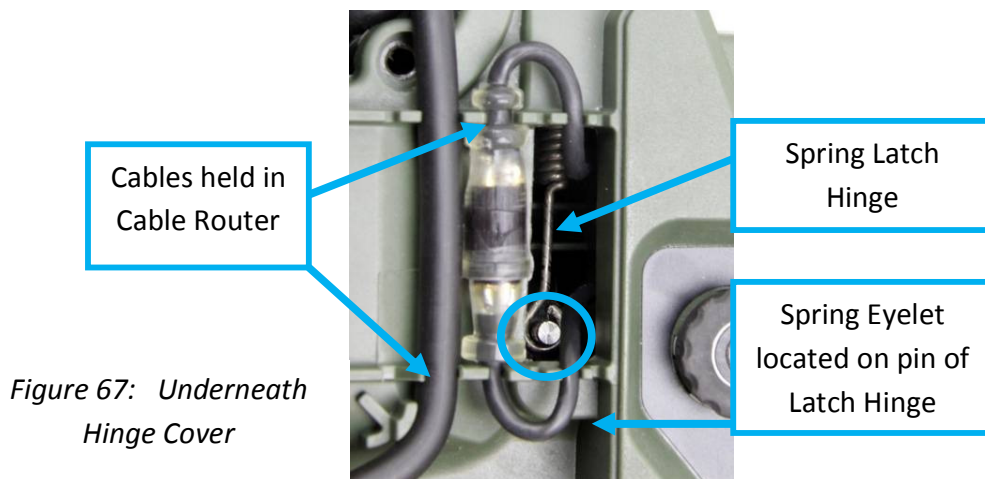

Figure 67: Underneath Hinge Cover
- Check the latch and spring are connected as shown in Figure 67. If the latch and spring have become disconnected they must be reconnected. It is possible to reattach the eyelet of the spring to the pin of the latch hinge through the opening under the hinge cover. Alternately the detector body can be opened to reattach the spring to the latch.